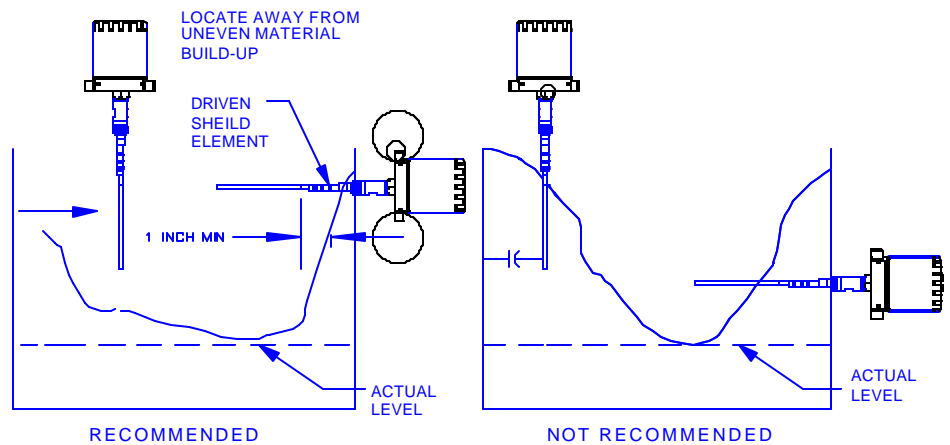

FIGURE 2-2 Probe Location Do's and Don'ts for Applications with Uneven Material Buildup
- Figure 2-2** Probe Location Do's and Don'ts For Applications with Uneven Material Buildup
dry solids) filling into the vessel unevenly. If the level probe is contacted by uneven material buildup, the Series 200 will switch at this false point which is not the intended actual level trip point. For vertically mounted probes, the effect of uneven material buildup may be minimized by moving the probe further towards the center of the vessel. For horizontally mounted probes, the end of the "driven shield" element must extend beyond uneven material by at least 1 inch. Figure 2-2 illustrates the mounting arrangements.